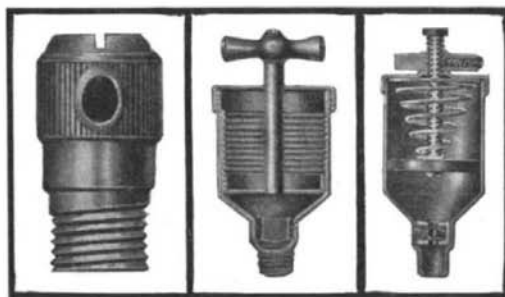

Fig. 3.—TYPICAL LUBRICATING DEVICES.
and beginning to lubricate as soon as applied. Non-fluid oils (vaseline) have special oil cups in which the lubricant is forced to the bearing by spring pressure (Fig. 3). When using greases, however, screw pressure cups turned by hand are employed. Greases in general are nothing but mineral oils, thickened with tallow, soaps, graphite, chalk, starch, etc. Some of these ingredients, added to thicken the oils, actually increase their lubricating quality. This is true of graphite. More often, however, they increase the manufacturer's profit. They are employed to lubricate steering connections, wheels, water pumps, universal joints, ball bearings, and transmissions and main-bearings of 2-cycle engines.
**Lubricating Systems.—Grease Cups (Fig. 3).**—There are several types of grease cups in use to-day. These are: (1) Magazine grease cups, used to lubricate more than one bearing. In these a comparatively thin grease should be used. (2) Small grease cups, located on the bearings proper. The grease is forced to the bearing either by spring pressure (thin grease or non-fluid oil) or by hand pressure (thick grease). In many instances the main shaft bearings of transmission cases are lubricated separately by grease cups, which are generally located under one of the side members of the frame. Care should be taken that the grease actually gets to the bearings, as the pipes leading